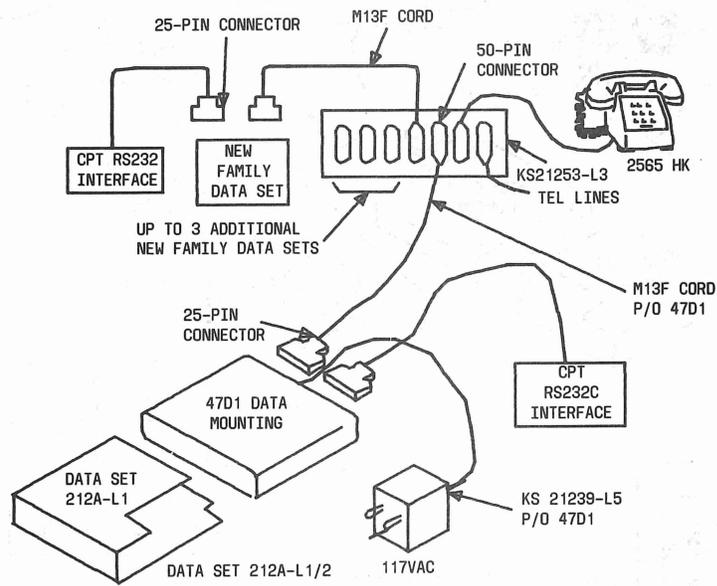
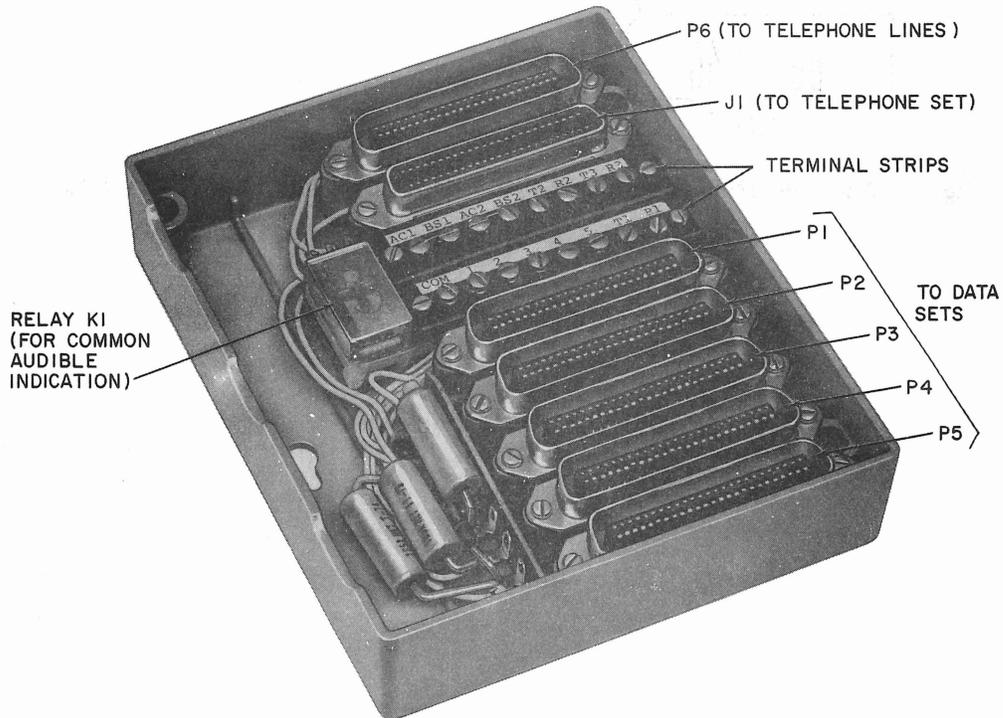
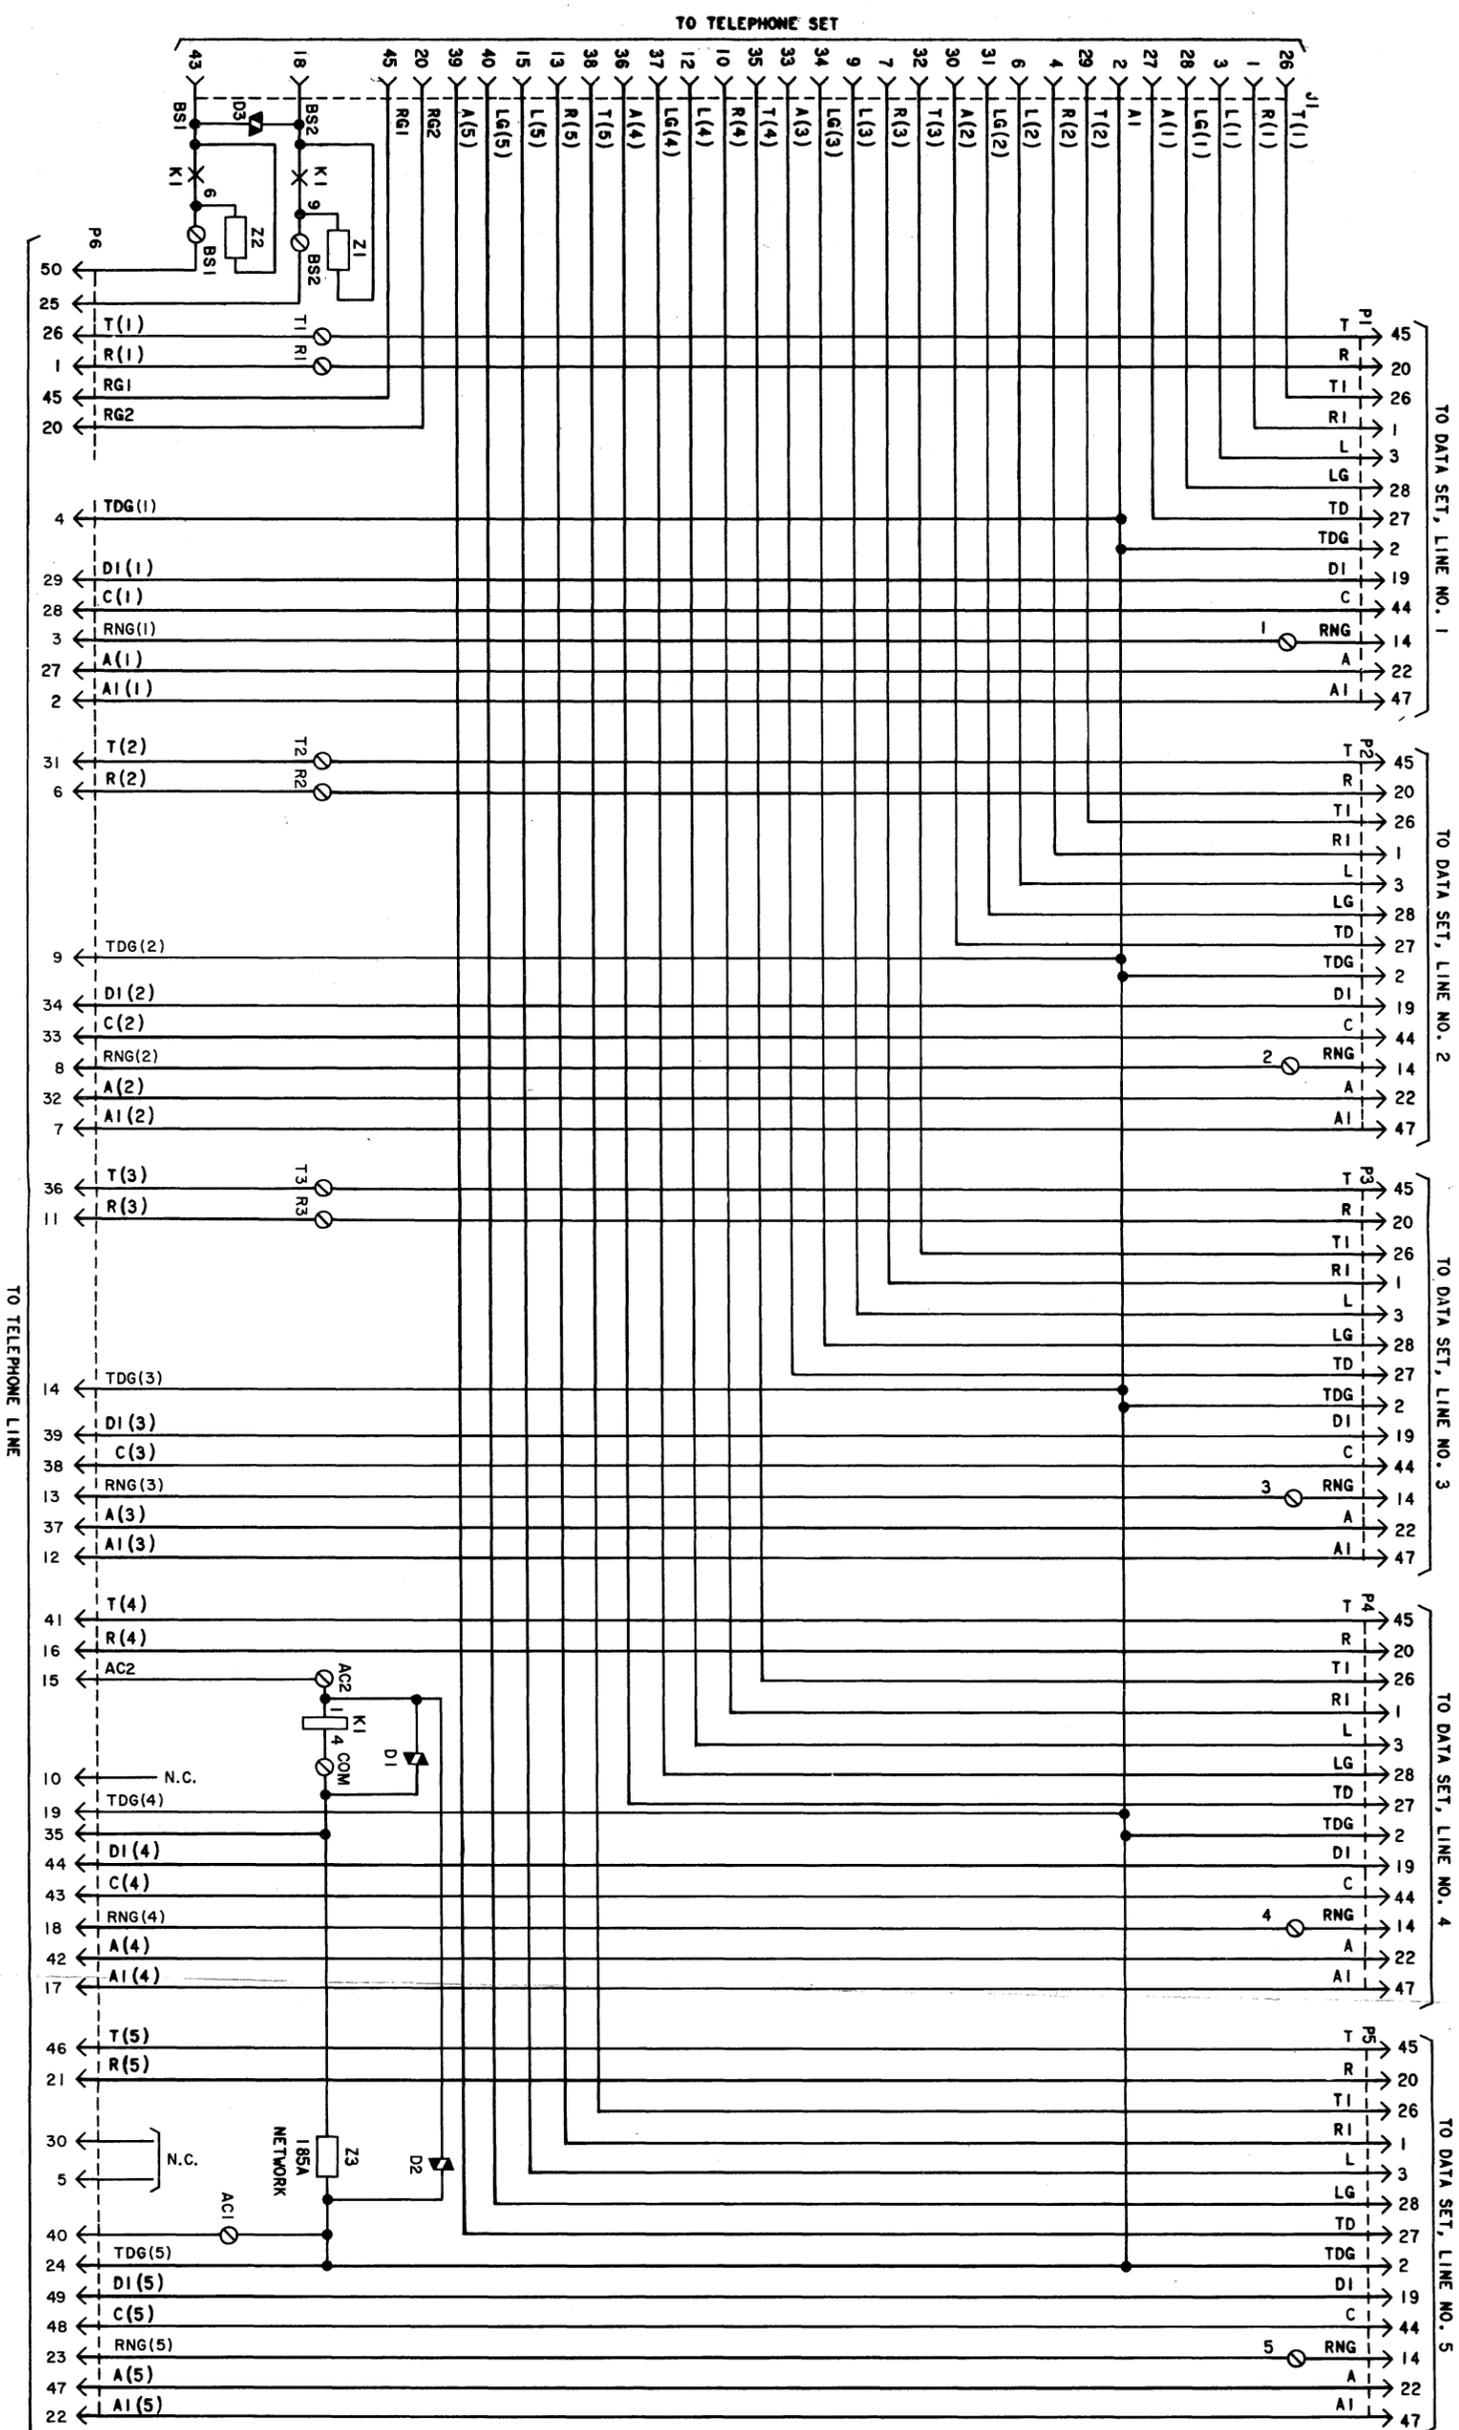

Fig. 9—Single Data Set With Shared Tel Set
Fig. 10—KS-21253-L3 Adapter With Cover Removed
Fig. 11—Internal Wiring of KS-21253-13 Adapter
4.06 Single Data Set With Shared Telephone Set: If DS 212A-L1A/2A shares the telephone set with other DSs 212A or other new family data sets, the connections are made as shown in Fig. 9. To eliminate the need for several 110-Vac outlets, the individual KS-21239-L5 transformers can be plugged into a multiple power outlet strip. A 602-15 Waber Electric power outlet strip accommodates three transformers. A 1A2 power panel accommodates six transformers. A KS-14532-L20 or equivalent cord is required with the 1A2 power panel. Figure 10 shows the KS-21253-L3 adapter used with this arrangement. Figure 11 shows the internal wiring of this adapter, and may be useful in troubleshooting.